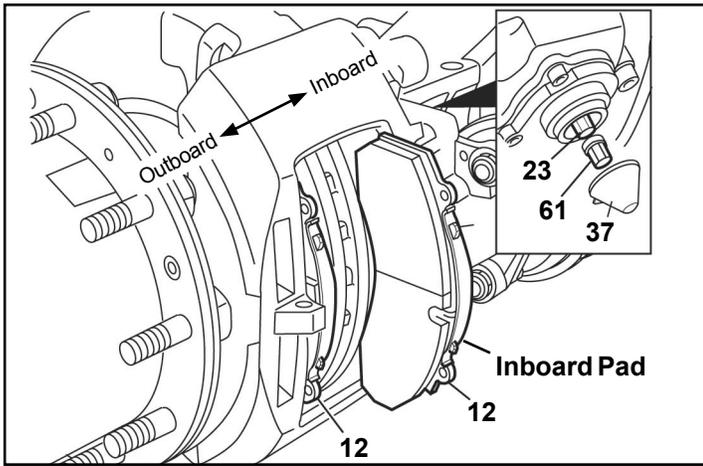

FIGURE 3 - BRAKE PAD REMOVAL
To remove the outboard brake pad (12), slide the caliper (1) fully to the outboard position first. Similarly, to remove the inboard pad, first move the caliper fully to the inboard position, and then remove the pad. See Figure 3.